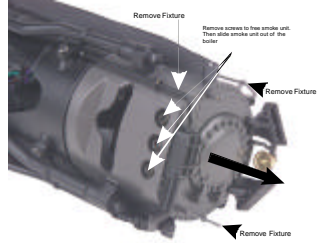

Figure 11
3. With the board free of the mounting screws, slide the assembly out of the boiler as seen in Fig. 11.